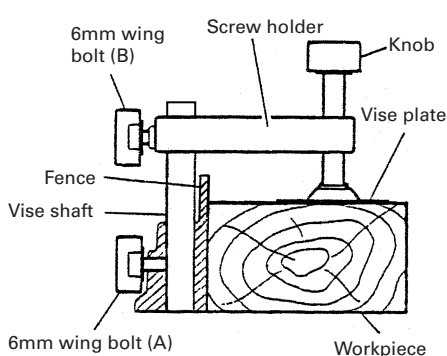

Fig. 25
- (1) The vise assembly can be mounted on either the left fence {Fence (B)} or the right fence {Fence (A)} by loosening the 6mm wing bolt (A).
- (2) The screw holder can be raised or lowered according to the height of the workpiece by loosening the 6mm wing bolt (B). After the adjustment, firmly tighten the 6mm wing bolt (B) and fix the screw holder.
- (3) Turn the upper knob and securely fix the workpiece in position (Fig. 25).